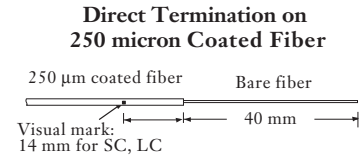

Figure 65 — Mark from Edge of Coated Fiber
- Make a visual mark 14 mm from edge of coated fiber (Figure 65).